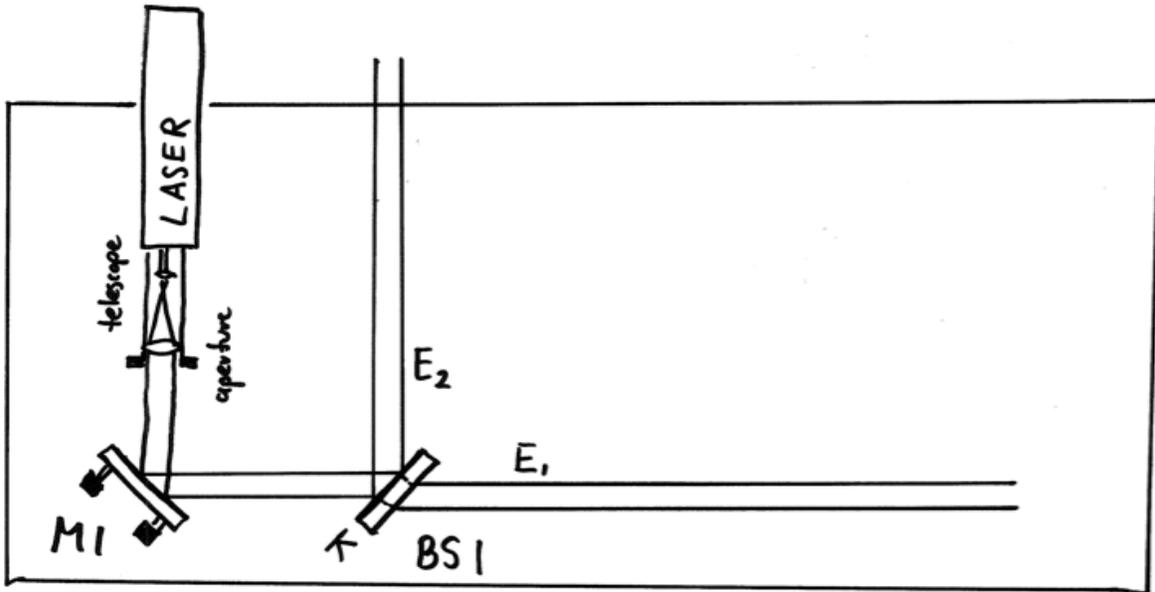

Figure 6: The beam splitter BS1 splits the plane wave into two separately traveling beams.
- To overlap the position of the beams, first close the aperture of the laser to make a small beam. Then, place a screen directly behind BS2 (see figure 6). Use the adjustment screws at M2 to overlap the beams directly behind BS2.